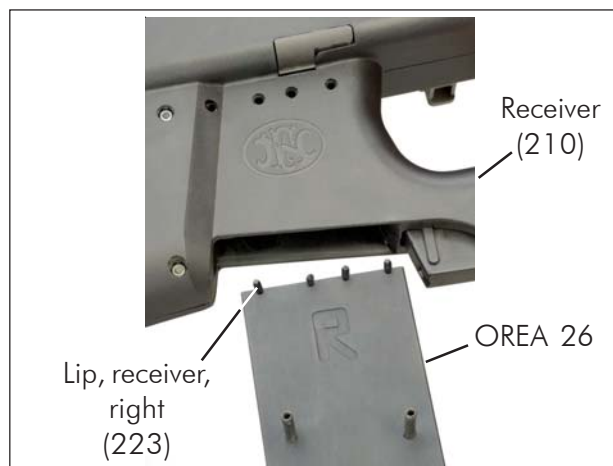

Fig. 9.3.ai - Installation of the lip, receiver, right (223)
- Using universal pliers UT 1817, pull firmly the 4 lugs of the lip, receiver, left (222) from the receiver (210) (Fig. 9.3.ag).
- Using cutting pliers UT 1822, cut the 4 studs of the lip, receiver, left (222) (Fig. 9.3.ah).
- Proceed the same way for the lip, receiver, right (223) taking care that the right side of the OREA 26 should be used (side marked with a 'R') (Fig. 9.3.ai).